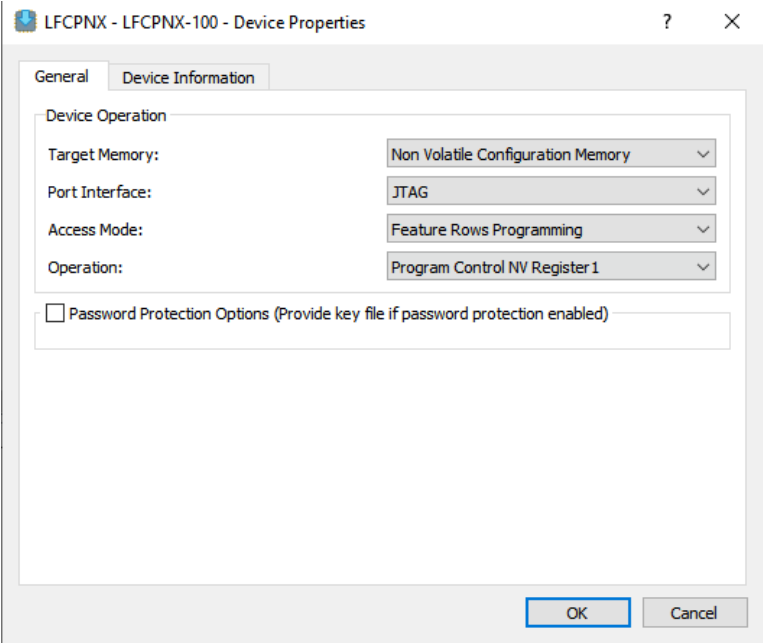

Figure B.2. Radiant Programmer – Configure NV Register 1 Setting
- 1. Apply the settings as shown in Figure B.2. This is a one-time step required to configure the NV Register 1 to enable 32-bit SPI addressing. Click **OK**.